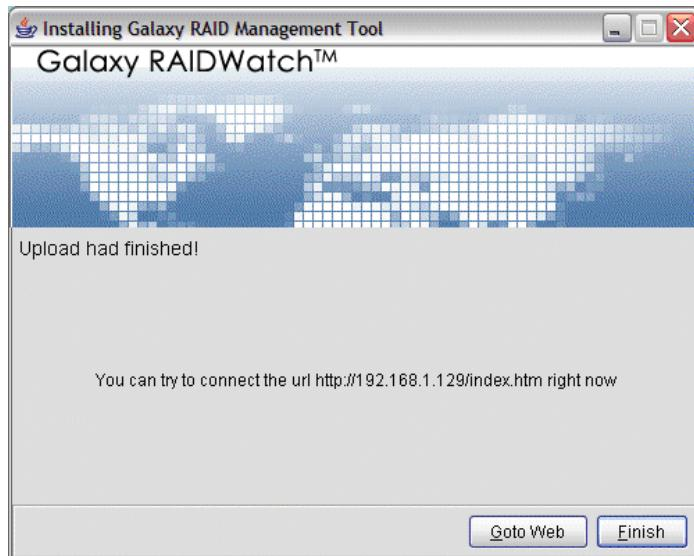

Figure 3-12: Successful Installation
Step 2. Once the software has been successfully installed, a window indicating the successful installation (see *Figure 3-12*) will appear. To complete the process and exit the window, click **Finish**.